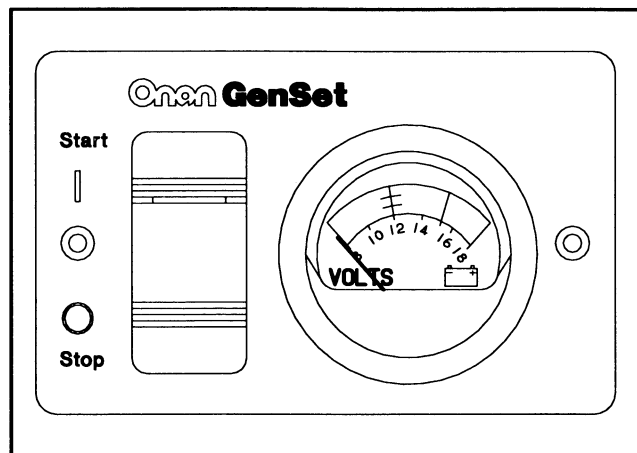

FIGURE 6. START/STOP SWITCH WITH BATTERY DC VOLTMETER
- Remote panel with start/stop switch, indicator lamp, and battery DC voltmeter (see Figure 6).
For best fuel economy and genset operation set the carburetor altitude adjust knob (Figure 6) for your altitude (gasoline models only). Look at road maps, travel atlases and road signs for altitude. (See *Powering Equipment* for information on how altitude affects the maximum power output of the genset.)